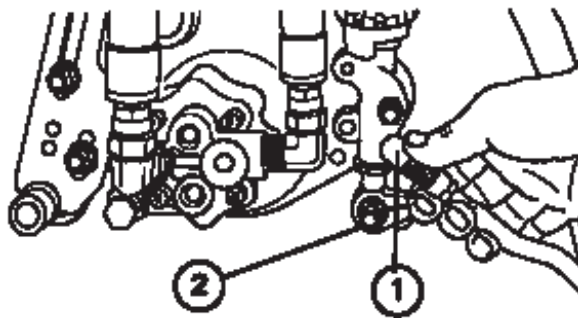

Figure 4
5. Slide the sleeve back on the ball joint and rotate the pull arm down so the socket fits over the ball stud. Release the sleeve so it slides over the stud and locks the assemblies together (Fig. 4).